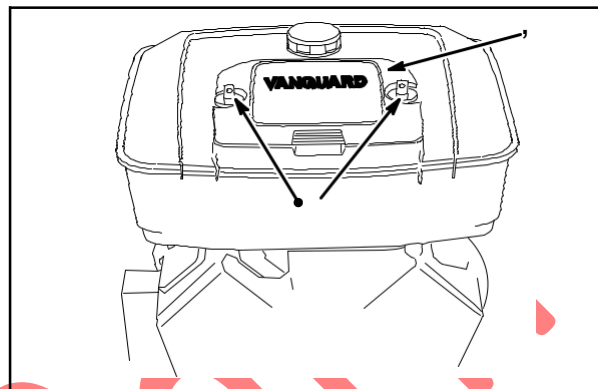

Fig. 7
Remove air cleaner cover knobs (1) and cover (2), **Fig. 7**.